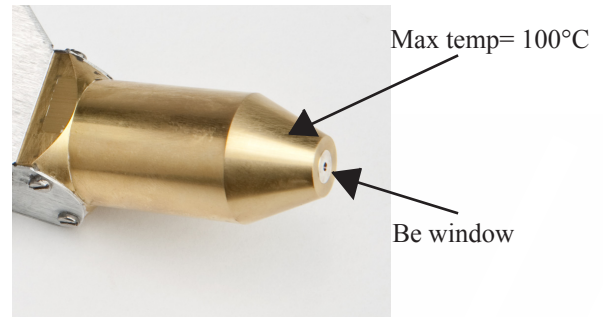

Figure 2
*Operating Temperature:* -10° to +50°C (for more details see Figure 2, page 3)
Care must be taken not to touch or damage the beryllium window at the end of the tube shield (Figure 2).
The maximum recommended operating anode shield temperature is 100 degrees Celsius (see Figure 2).
**CAUTION:** Monoblock X-Ray Source contains beryllium. Inhaling beryllium dust causes lung disease. Do not touch the beryllium window (Figure 2).